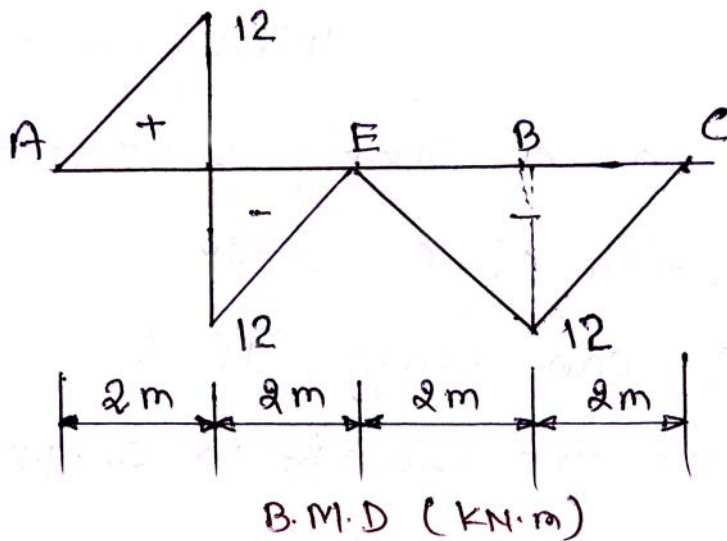

Fig. 4 (a)
4. a) A beam is simply supported at A and B. Support A and B are 6 m apart and overhanging BC = 1m. The B.M.D. is as shown in fig. 4(a).